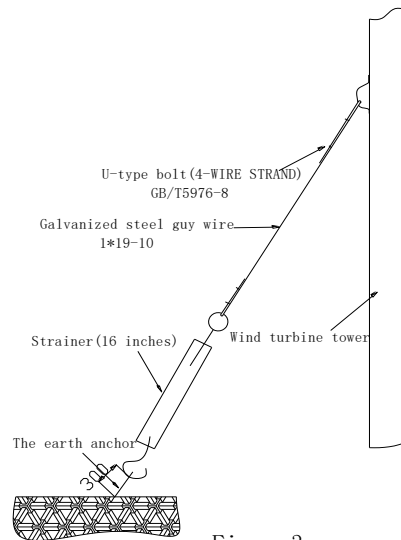

Figure3
2. The installation sequence of the wind turbines can follow the steps as illustrated in figure 3.
Figure 3 wind turbine decomposition